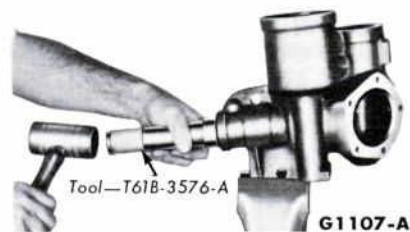
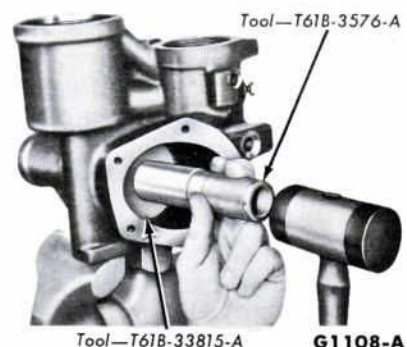

FIG. 58—Lower Bushing Installation
FIG. 59—Upper Bushing Installation
4. Install new lower and center sector shaft bushings using the bushing driver shown in Fig. 58. Install the upper bushing using the bushing driver shown in Fig. 59.